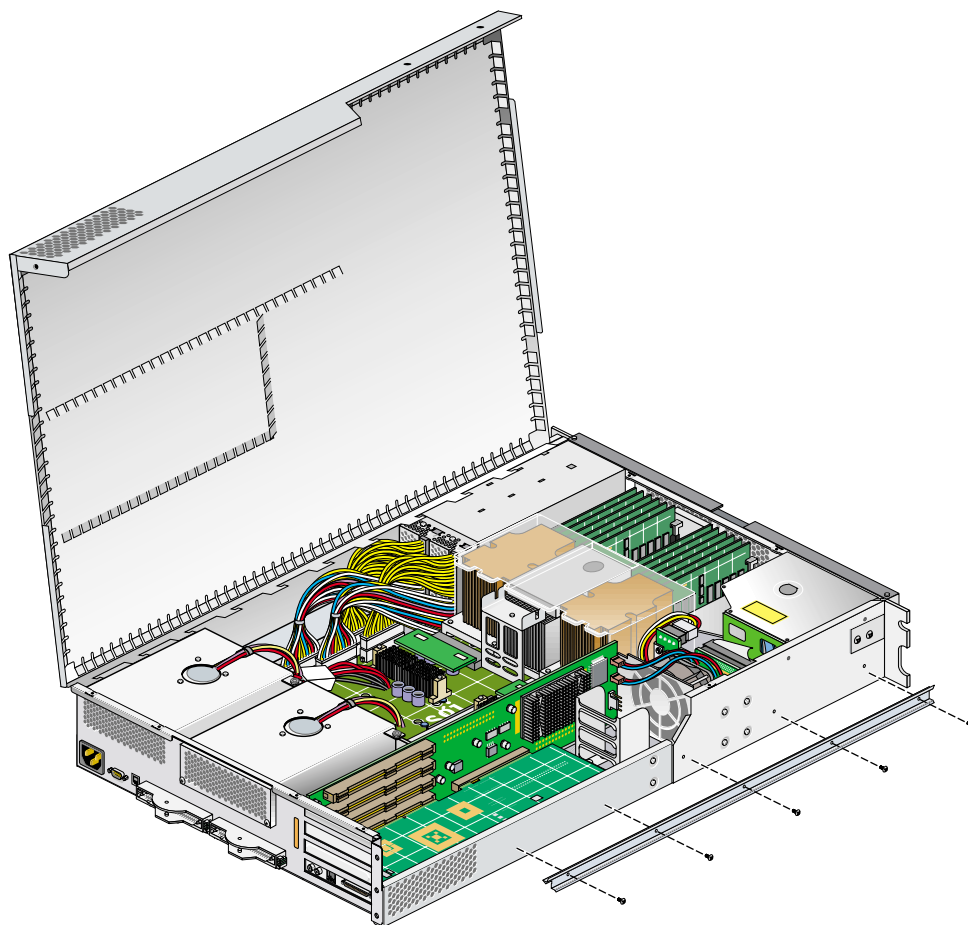

Figure 3-9 Replacing the Chassis Rail
13. Replace the optional chassis rail (if applicable) by screwing in the five Phillips screws, as shown in Figure 3-9.